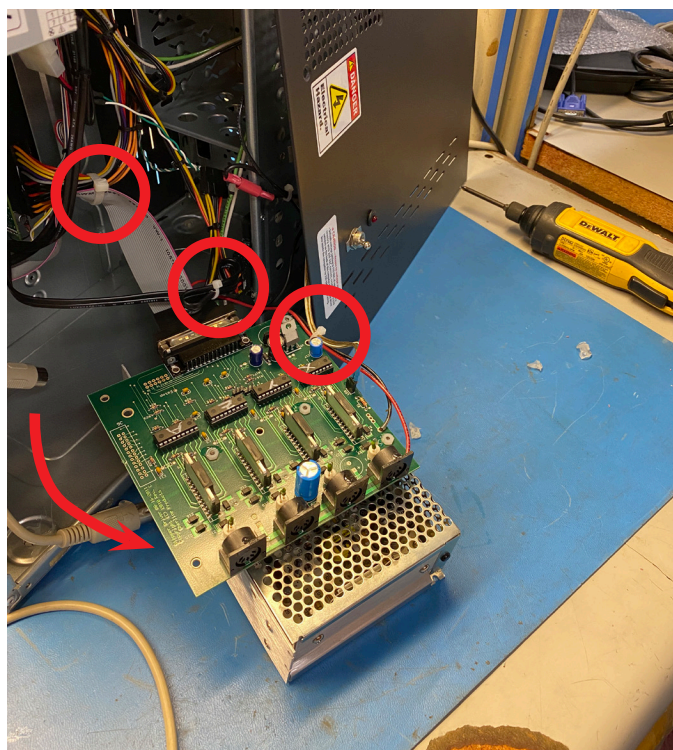

FIGURE 6
5. Clip the zip ties shown circled in red (see Figure 6). You may need to pull the stepper motor cables into the PC a bit to allow space to remove the driver box.